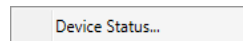

Figure 3-47 – Safety Barrier Context Menu
- **Safety Barrier Context Menu** (see Figure 3-47): This context menu provides the operator with options for Safety Barrier devices available by selecting an icon on the map.